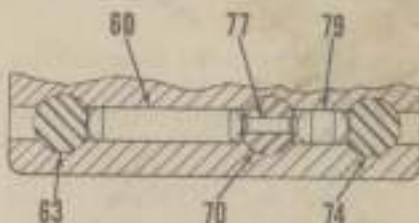

Fig. 121—Cut-away view of D-17 transmission cover showing location of interlock plungers and pin.
To remove the shift rails, proceed as follows: Remove lock screw from reverse shifter fork, rotate shift rail 1/4-turn, and catch detent ball and spring while sliding rail forward out of cover. With the reverse shift rail removed, long interlock plunger (60—Fig. 121) and interlock pin (77) can be removed from cover assembly. Then, remove lock screw from first and second gear shifter fork, turn rail 1/4-turn and catch detent ball and spring while sliding rail forward out of cover. Rotate third and fourth gear shift rail 1/4-turn and catch detent ball and spring while sliding rail forward out of cover. Be careful not to lose the short interlock plunger (79).